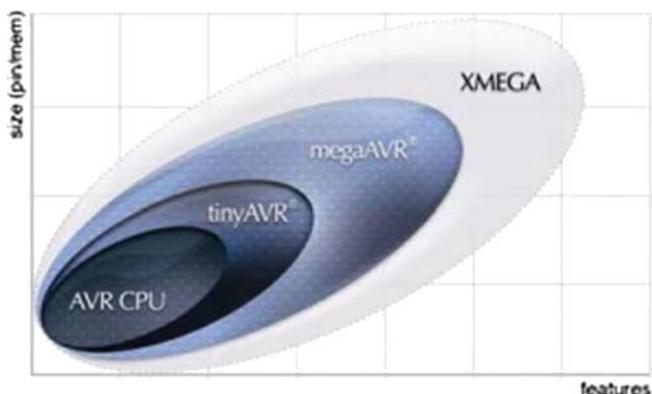

Fig. 7.4 Atmel 8-bit AVR Product Line
6. Many chips. Like the PIC, there are many choices in the AVR family. Unfortunately, there is only a single source. Packages range from 8 pins to 100 pins. Code sizes range from 1kB to 256kB. See Figure 7.4 for a high-level view of the categories within the family.